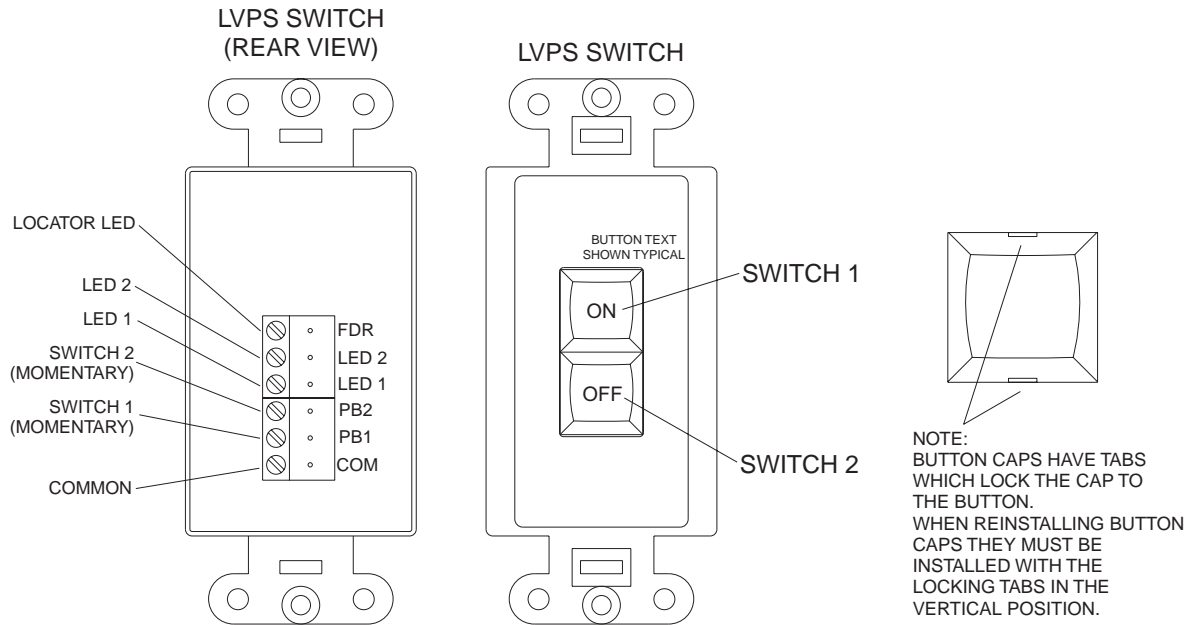

Figure 1 - LVPS Details
2. Place the label under the button cap, then press the button cap back on the button. Make sure the locking tabs in the button caps are in the vertical position. (See *Figure 1* for details)